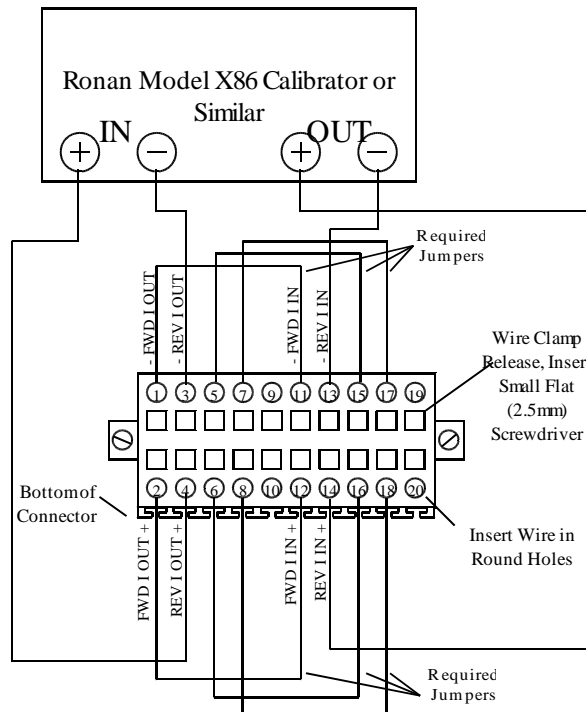
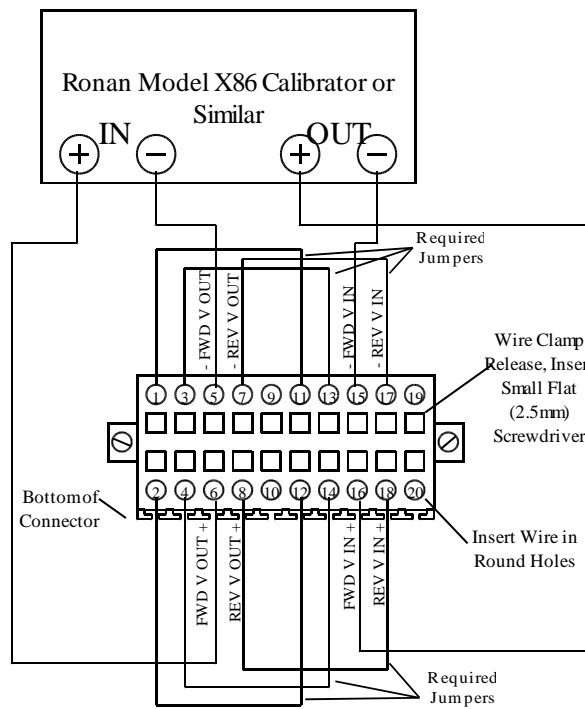

Figure 7.3: Analog Calibration Connections - Reverse Current Channel - (option)
Figure 7.4: Analog Calibration Connections - Forward Voltage Channel
10. Repeat steps 1 through 9 for the remaining Analog Control channels. Switch the meter connections to the next set of + and - terminals (i.e. from 1 and 2 to 3 and 4 respectively, and from 11 and 12 to 13 and 14 respectively) that the supply uses for analog control. Also, switch the jumpers (See **Figure 7.3** through **Figure 7.4** below). If the Reverse Option is not installed, skip the reverse terminals and menu items (jumpers are still required).